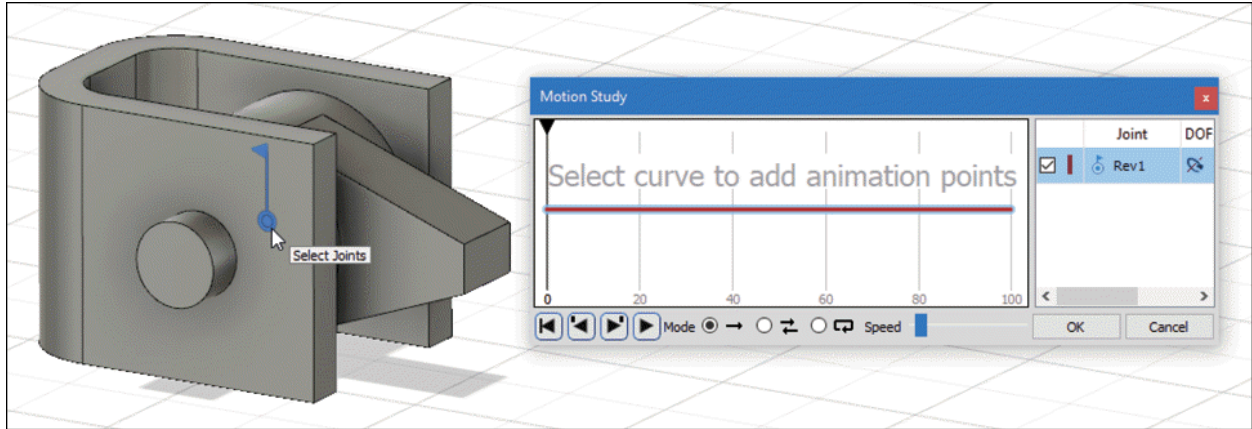

Figure-58. Selecting joint for animation
- You need to select the joint from part or model. Click to select the joint; refer to Figure-58.